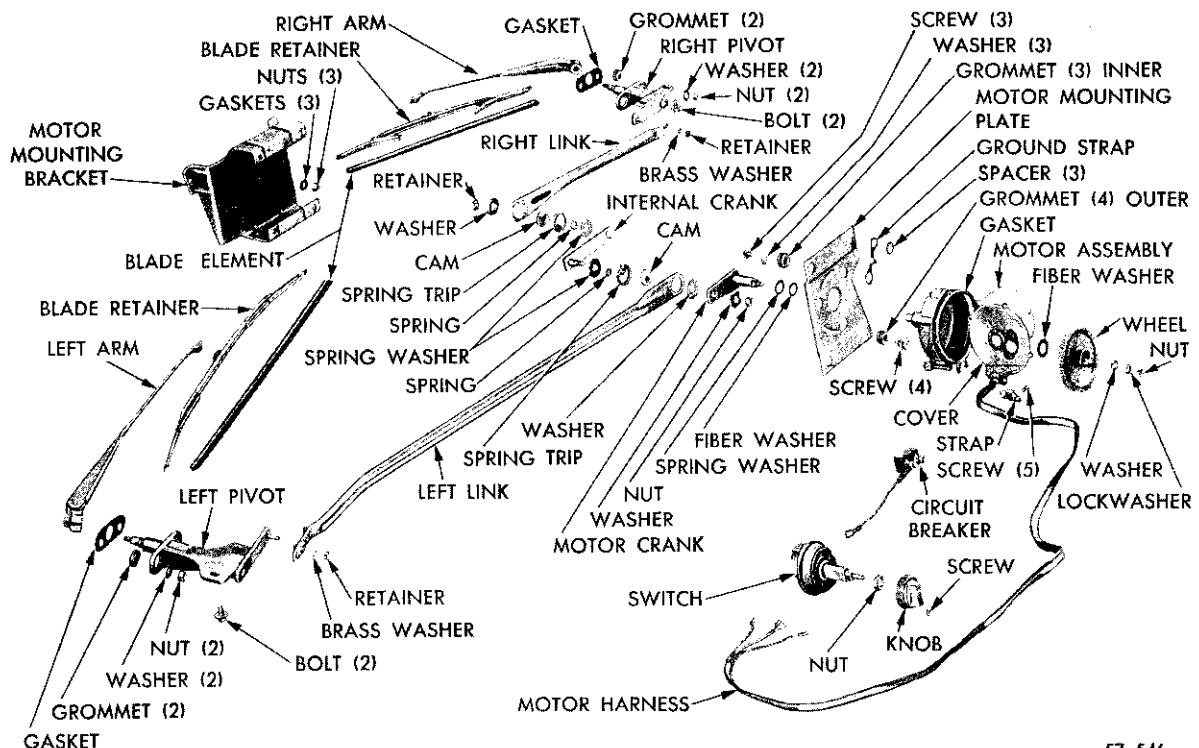

Fig. 40—Windshield Wipers (Disassembled)
(Refer to Figure 40). The variable speed motor is a compound wound, reversible type unit which makes possible off-glass parking feature. The wiper also contains a Geneva Wheel in gear box for actuating off-glass parking switch, and an eccentric in connecting link at wiper crank pivot which automatically lengthens links making off-glass parking position possible.
66. REMOVAL, DISASSEMBLY AND ASSEMBLY OF VARIABLE SPEED WINDSHIELD WIPERS (Fig. 40).
(Fig. 40)